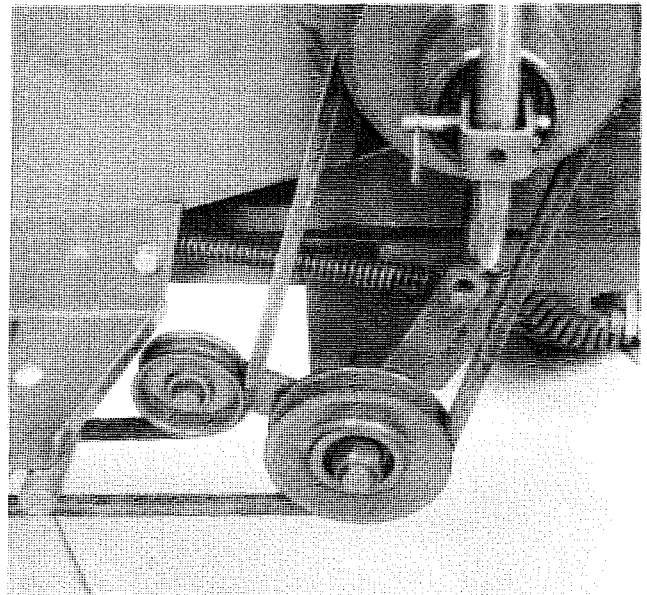

Fig. 6. Prior Model Idler Spring Installation
On older model tractors, refer to Fig. 6 and remove the bolt holding the footrest to the belt guard. Replace it with a  $\frac{3}{16}$ -18 x 1 bolt (85). Thread a  $\frac{3}{16}$ -18 Eslok nut on the end of the bolt, leaving room to hook the idler spring over the bolt between the nut and the belt guard. Then connect the spring to both the bolt and the idler arm.